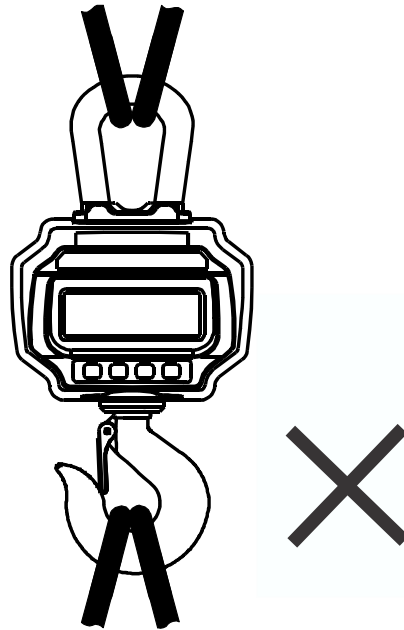

Figure 5.4 Multiple Attachments
- DO NOT use multiple attachments! Refer to Figure 5.4.